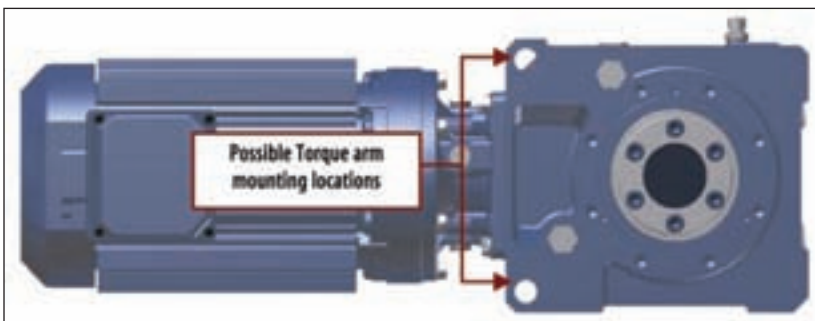

Figure 1—Manufacturers often provide multiple mounting holes for the placement of a torque arm, as seen in this picture of a Sumitomo Cyclo Bevel Buddybox.
2. The dimensional location on the SMSR where the torque arm will be mounted. Manufacturers of shaft-mounted speed reducers provide at least one mounting location for a torque arm (Fig. 1). Note that the point where the torque arm attaches to the reducer (either directly or indirectly through a bracket) is known as the pivot point. Many manufacturers provide more than one potential location for the torque arm in order to accommodate the various mounting configurations available for a given product. The location(s) of these mounting holes/positions may be found in catalog cut sheets or through manufacturer-supplied product drawings.
Using Figure 1 as an example, let's say an application requires a bracket-style torque arm, and this bracket will be attached to the housing at both identified mounting holes. Using the unit model size, reduction ratio, and motor input speed, you can determine the output torque capacity from the reducer catalog ratings table (Fig. 2).